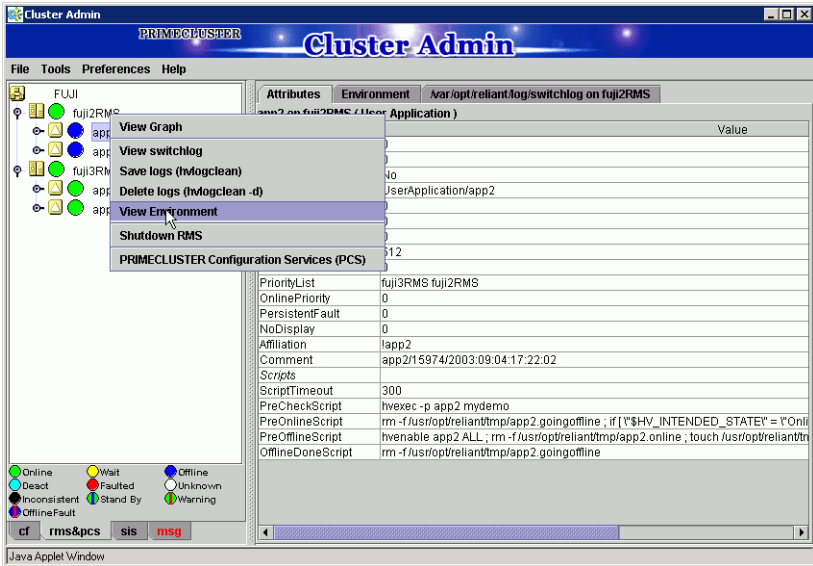

Figure 111: Local environmental variables pop-up
- ▶ Right-click on a node in the RMS tree window and select *View Environment* in the command pop-up (Figure 111).